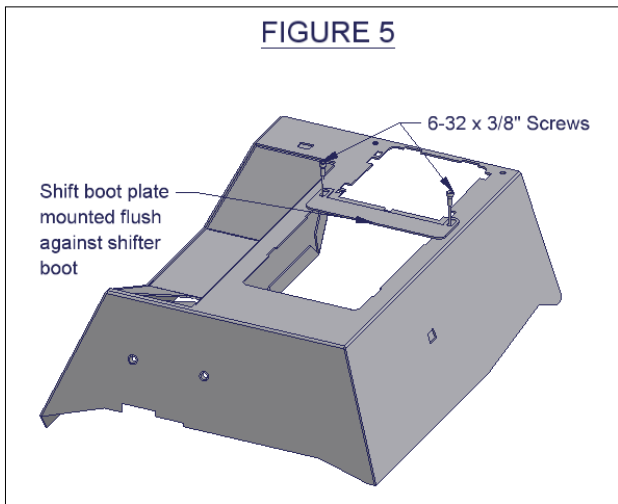

FIGURE 6
40. Attach the front console tray using (4) 6-32 x 3/8" screws (SEE FIGURE 6). Position the tray flush against the shift boot so it holds the shift boot tightly.